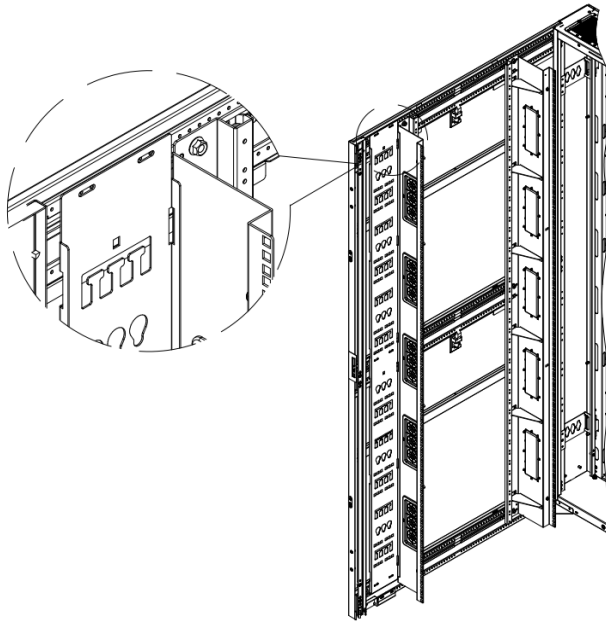

Figure 6.5.4
- (Only for the Pro Version) Use the front face of the rail to position the lashing panel along the beam installation surface. (Figure 6.5.4)